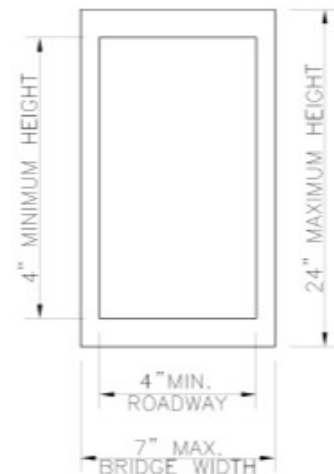
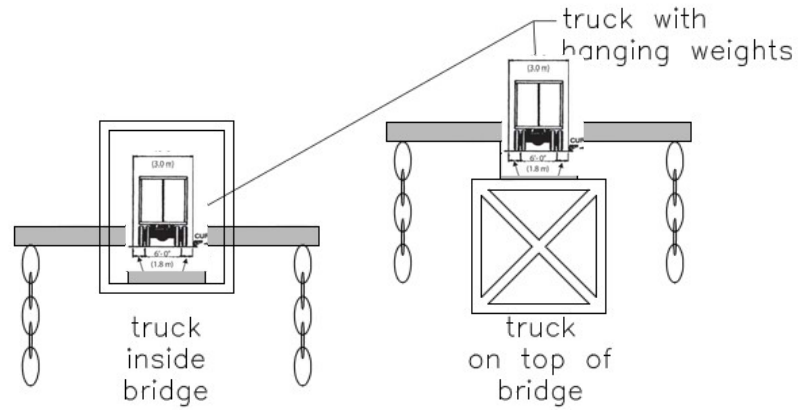

Figure 2: Cross Section of Bridge with Roadway through Bridge
Figure 3a: Different Ways to Load the Bridge Section Views
- The overall width is limited to 7 inches maximum. The roadway width shall be a minimum of 4 inches. The roadway is defined as the distance between the sides of the bridge (in the case of a through truss) or the overall width of the bridge when the roadway is on top of the bridge. See Figure 2 and Figure 3a.
5. The 4” minimum shown in Figure 2 only applies if the roadway is inside the bridge. There is no minimum height if the roadway is on the top of the bridge. See Figure 3.